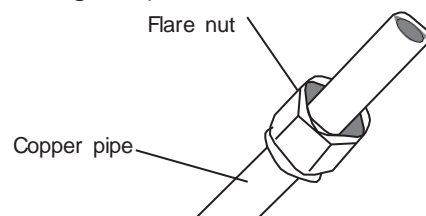

Fig. 7.7
3. Place flare nuts on both ends of pipe. Make sure they are facing in the right direction, because you cannot put them on or change their direction after flaring (see Fig. 7.7).